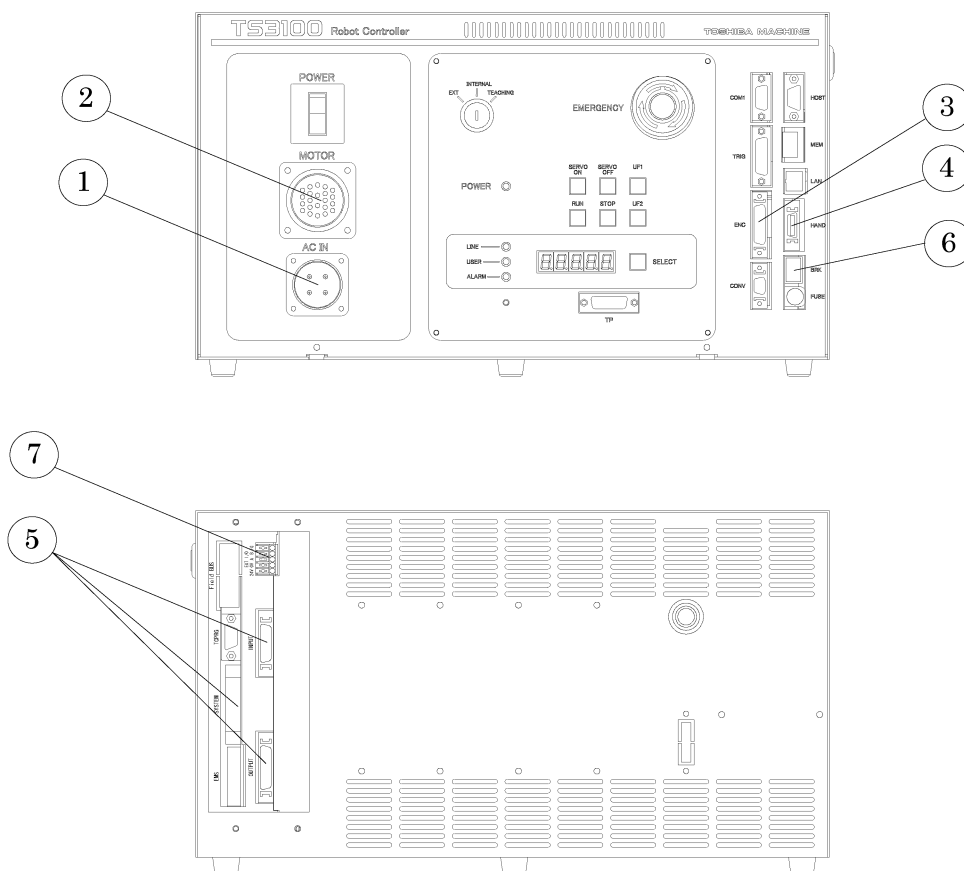
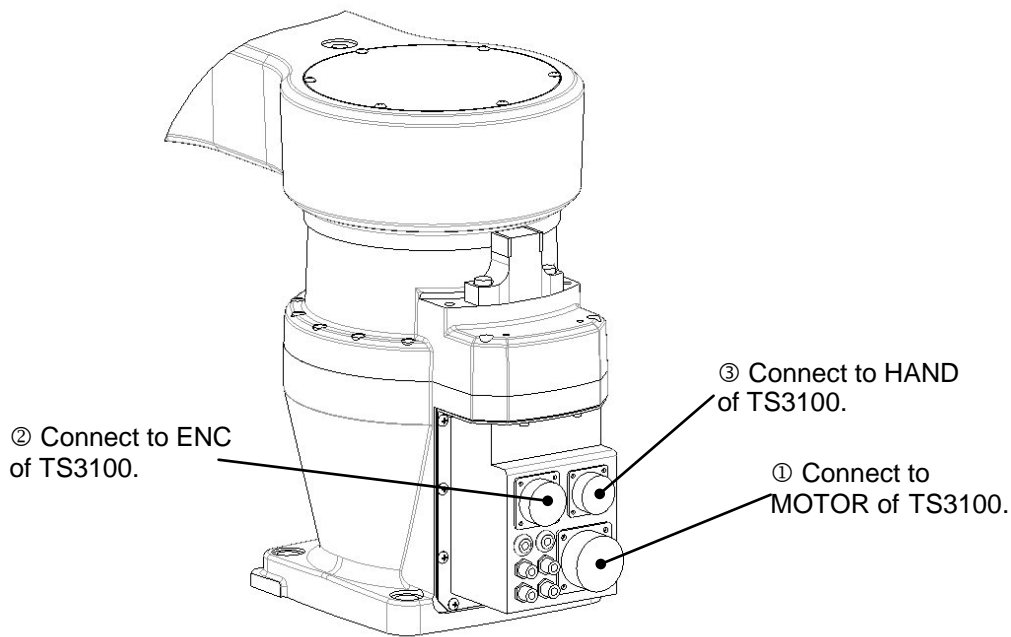

Fig. 4.1 Robot controller connector arrangement
Fig. 4.2 Robot side connector arrangement
The cables connected to the robot controller are shown in Fig. 4.1.
([1] of Fig. 4.1; plug connector attached)
The connector is ACIN (① of Fig. 4.1).
4.1.3 Connecting the Motor Cable “MOTOR” (② of Fig. 4.1) (Cable attached)
The motor cable connects the controller and robot, and supplies the power required to rotate the motor from the controller servo driver to each axis feed motor of the robot. The connector for connecting the motor cable is MOTOR (② of Fig. 4.1). Location of the motor cable on the robot side is ① in Fig. 4.2.
4.1.4 Connecting the Encoder Cable “ENC” (③ of Fig. 4.1) (Cable attached)
The connector for connecting the encoder cable is ENC (③ of Fig. 4.1). Location of the encoder cable on the robot side is ② in Fig. 4.2.
4.1.5 Connecting the Robot Control Signal Cable “HAND” (④ of Fig. 4.1) (Cable: option)
The connector for connecting the robot control signal cable is HAND (④ of Fig. 4.1).
Location of the robot control signal cable connector on the robot side is ③ in Fig. 4.2.